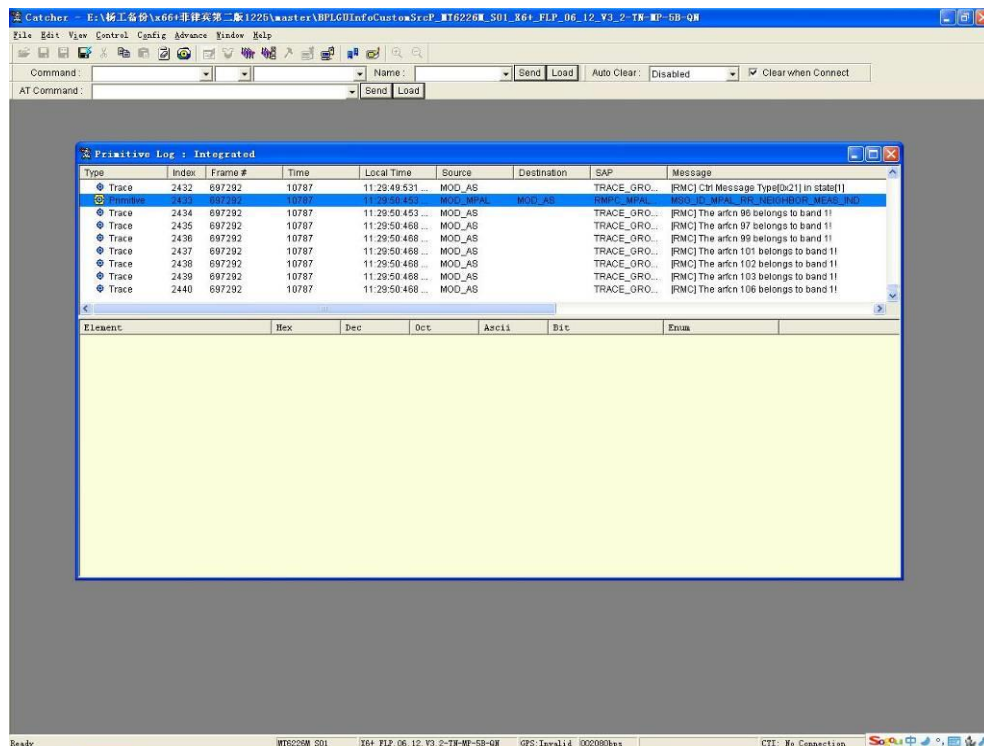
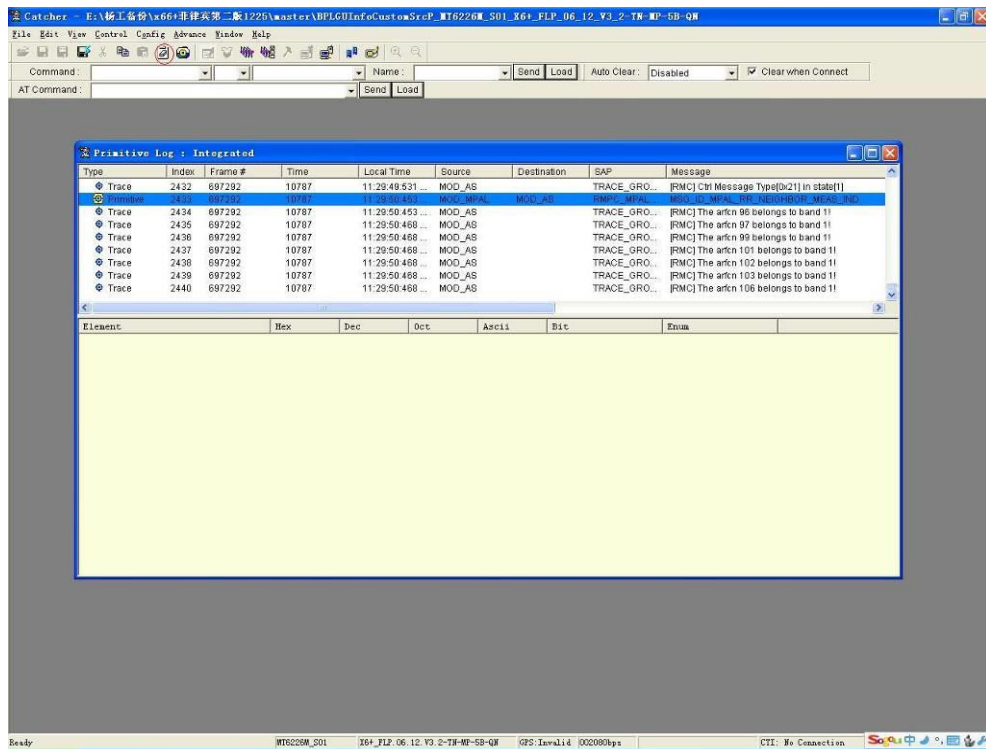
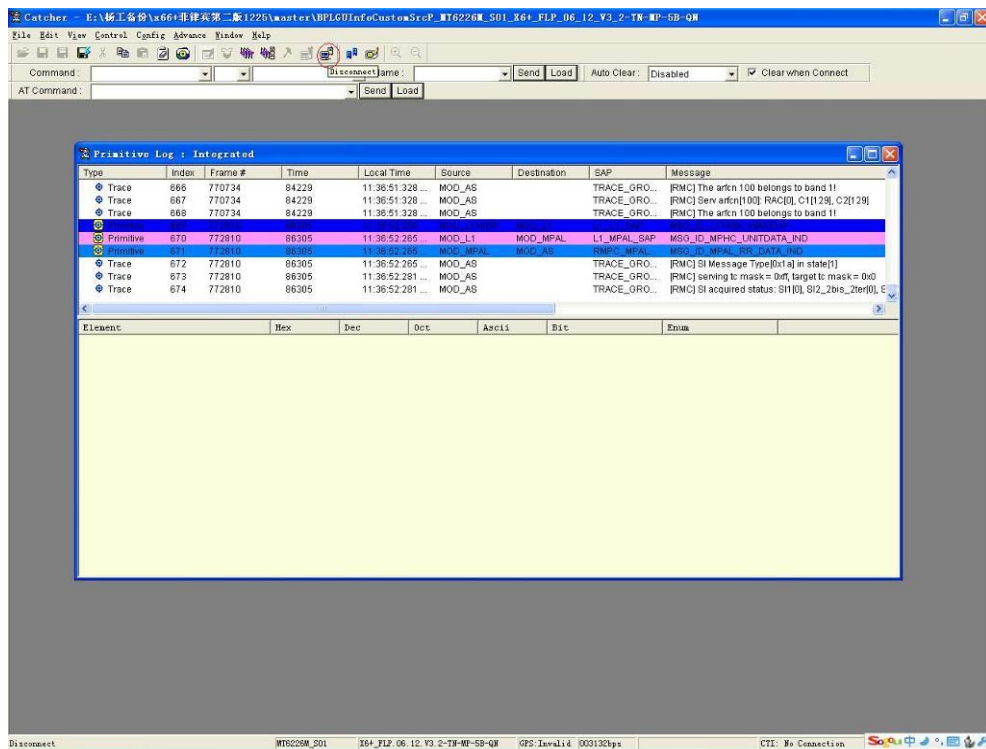
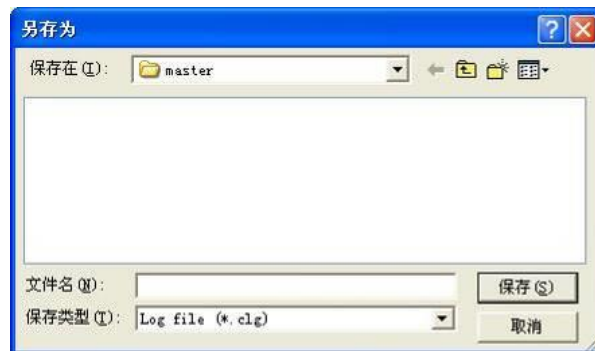

Figure 17
Figure 18
Figure 19
Figure 20
5.3 The catcher records primitive information as showed in figure 17. Click the button “clear” in figure 18 to clear the useful primitive information. Then the phone user carries on some operations to the phone to make the failures recur. After the wanted failures occur wholly, click the button “disconnect” in figure 19. You can save the “.clg” file now as showed in figure 20, and name it. The “.clg” file is that needed for analyzing the failures of phone.